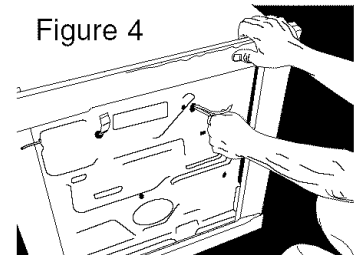

Figure 4
3. Pull loose straps from the bottom of the washer one at a time until all straps have been removed. (See figure 4.)